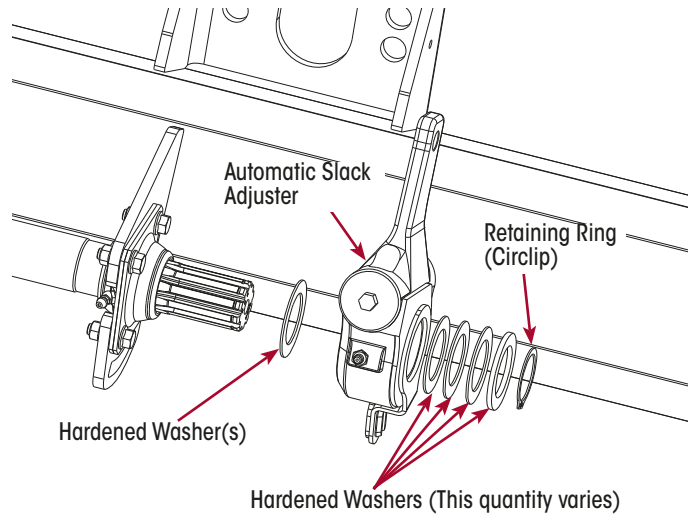

Figure 93: Slack Adjuster Washer Installation
2. Fit hardened washer(s) to S-cam spine end. A minimum of one washer is required here but more may be required. Refer Figure 93.